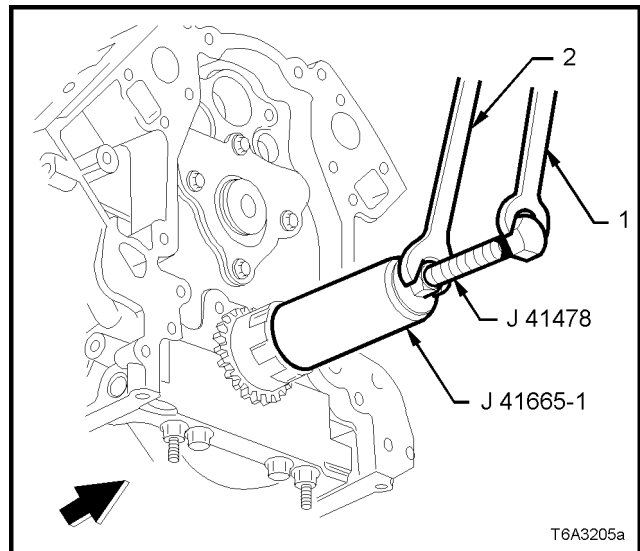

Figure 6A3-255
- b. Screw threaded bolt into the crankshaft, using set spanner (1).
- c. While holding the threaded bolt with set spanner (1), turn the nut on the threaded bolt with a second set spanner (2), moving installer J 41665 to fully install the crankshaft sprocket onto the crankshaft nose.
4. If required, temporarily install the harmonic balancer bolt and rotate the crankshaft until the timing alignment mark is at the 12 o'clock position. Refer Figure 6A3-263.
5. Install the camshaft sprocket (3), aligning the peg on the camshaft with the sprocket hole. Check that the timing mark is at the 6 o'clock position. Refer Figure 6A3-263.
6. If required, temporarily install the camshaft sprocket bolts and use a suitable lever to rotate the camshaft sprocket until the timing mark is correctly aligned. Remove the bolts (1) and sprocket (3).
7. Install the timing chain (2) to the camshaft sprocket (3), align the camshaft peg with the camshaft sprocket hole by eye, then install the timing chain to the crankshaft sprocket.